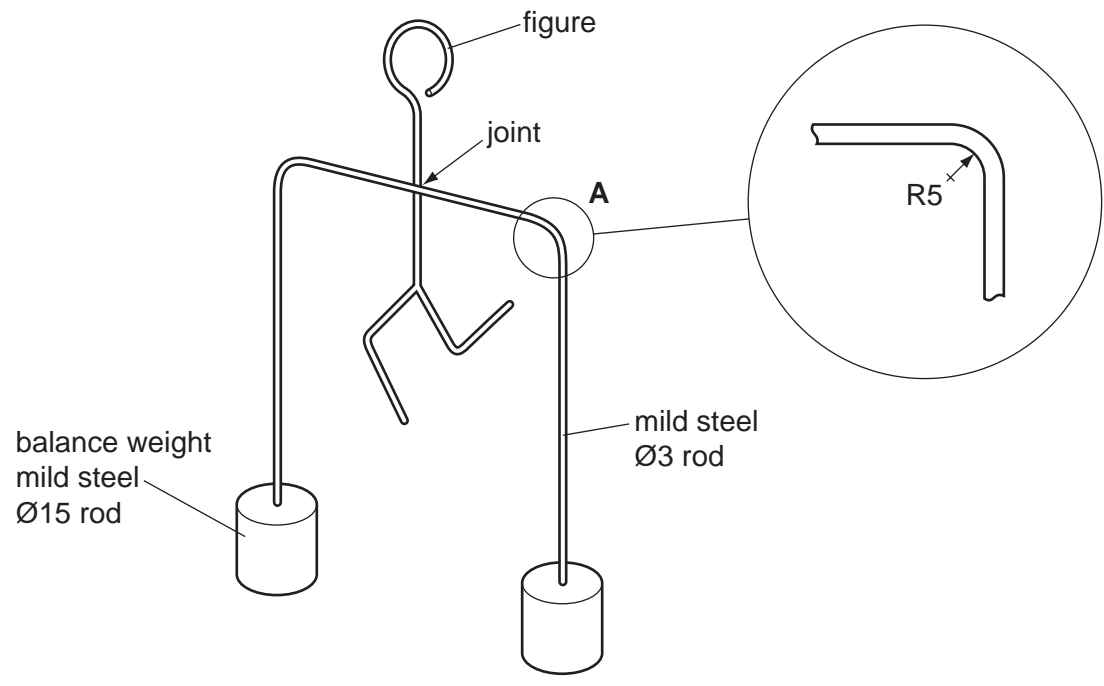

Fig. 12
12 Fig. 12 shows a balancing toy made from mild steel. The stand on which the toy will be placed is not shown.
- (f) The joint in Fig. 12 will be made by brazing.